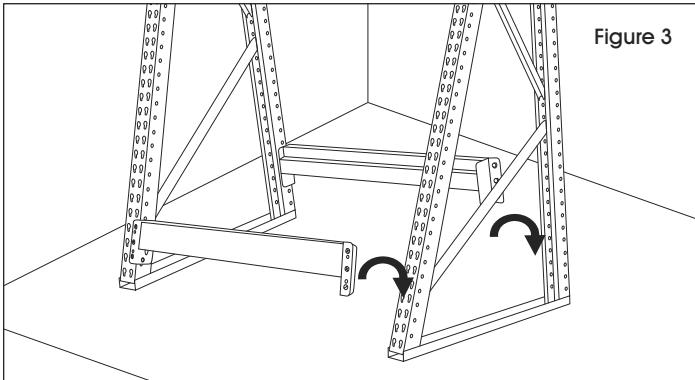

Figure 3
3. Holding the second upright in place, lift, hook and lock the support beams in place. (See Figure 3)